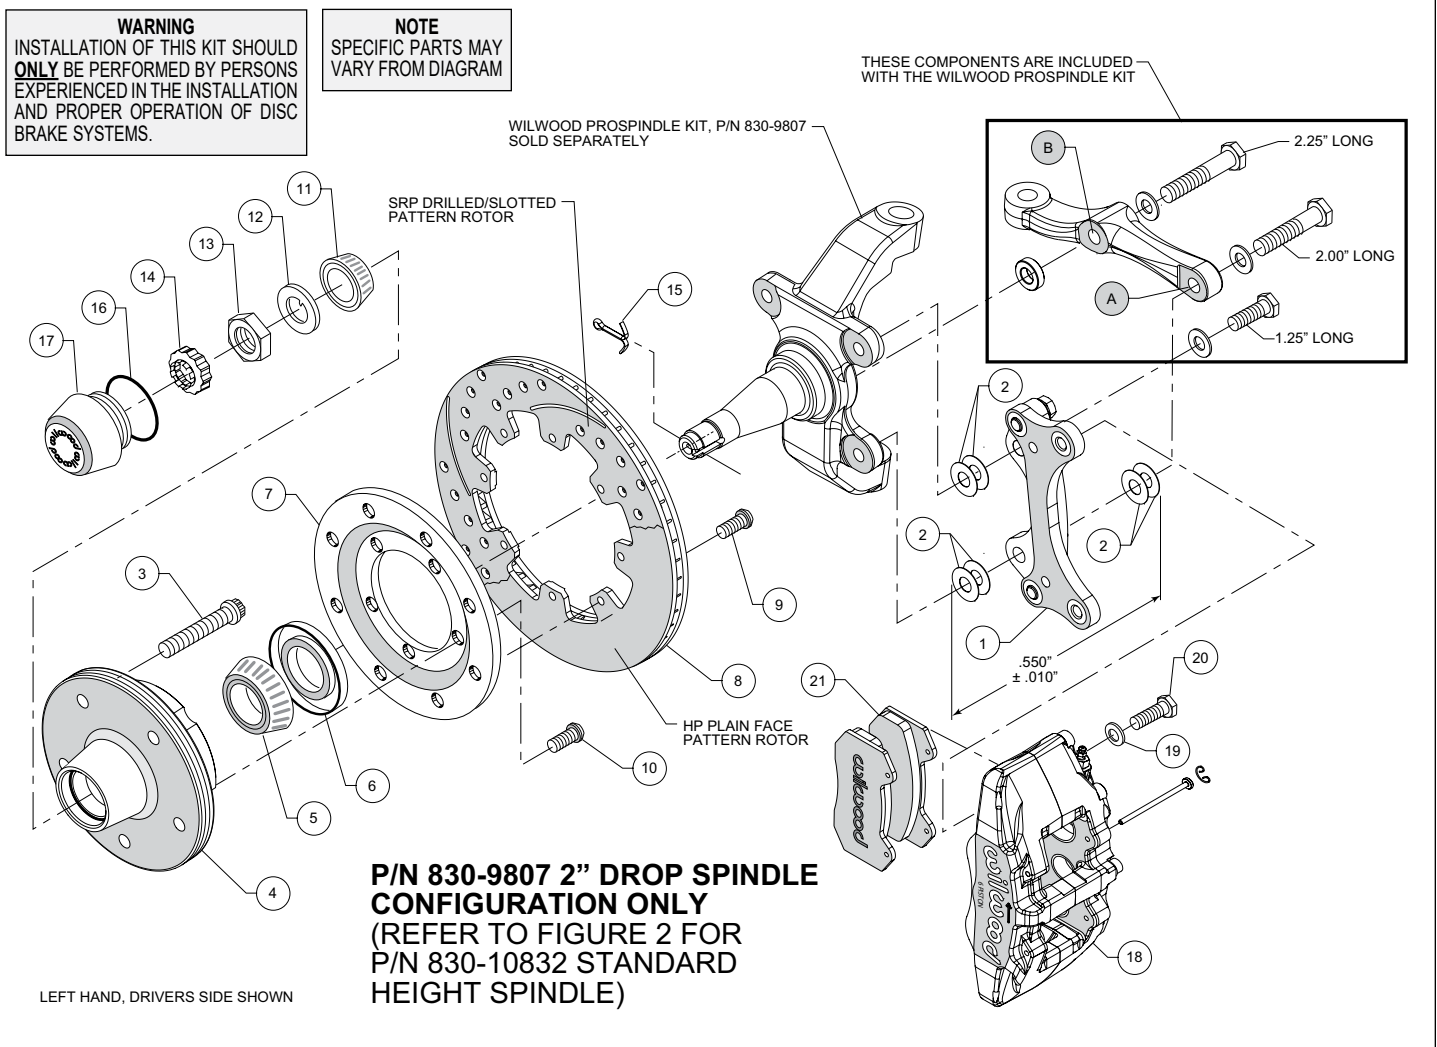

Figure 1. Installation Configuration for Drop Spindle, P/N 830-9807
NOTE: Numbers in parenthesis refer to the parts list and Figures 1 and 2 on the preceding pages.
NOTE: Each Wilwood ProSpindle kit includes bolts, washers, and a spacer to mount the steering arm and caliper bracket. The various bolts are identified by length in the following instructions and in Figures 1 and 2.
- Orient the bracket as shown in Figure 1 and Photo 1. Install at top spindle hole using 1.25" long bolt and .06" thick washer (from ProSpindle kit), and two .016" thick shims (2) between the bracket and spindle, Figure 1.
- Orient the steering arm, and identify the hole marked 'A', as shown in Figure 1. Install at bottom spindle hole using 2.00" long bolt, .06" thick washer (from ProSpindle kit), two .016" thick shims (2) between the steering arm and the bracket, and another two more .016" thick shims (2) between the bracket and spindle, Figure 1. The bracket is located between the steering arm and spindle. **NOTE:** The bracket and shim washers must add up to a total thickness of .550" ± .010", Figure 1.
- Finish attaching the steering arm through the hole marked 'B', as shown in Figure 1. Install using 2.25" long bolt, .06" thick washer, and .25" thick spacer (all from ProSpindle kit), Figure 1.
- Orient the rotor (8) and the rotor adapter (7) as shown in Figure 1 or 2 and Photo 5. Attach the rotor to the adapter using bolts (9). Using an alternating sequence, apply red *Loctite*® 271 to the threads, and torque to 25 ft-lb.
- Mount the adapter/rotor assembly (7 and 8) to the hub (4) using bolts (10), as shown in Figure 1 or 2 and Photo 6. Using an alternating sequence, apply red *Loctite*® 271 to the threads, and torque to 45 ft-lb.
- Pack the small outer bearing cone (11) with high temperature disc brake bearing grease and install into front of hub (4), Photo 7. Slide the hub/rotor onto the spindle. Secure using spindle washer (12) and adjusting nut (13). Bearing adjustment: Tighten the nut while turning the hub. When there is a slight bind on the bearings, they are seated correctly. Back the nut off about 1/6 to 1/4 of a turn, or sufficiently to allow .001" to .007" end play. **WARNING:** Failure to back off adjusting nut could cause bearing to run hot and be damaged, which could cause the wheel to lock or come off. Install spindle nut retainer (14) and new cotter pin (15).
- Screw dust cap (17) into hub (4), Photo 8. Friction created by the o-ring (16) on the dust cap keeps it from unscrewing. **NOTE:** The O.D. of the existing OEM spindle washer may be larger than the I.D. of the dust cap not allowing it to seat against the hub face. Therefore, use the spindle washer (12) supplied with the kit instead of the OEM washer.
- NOTE:** Please reference the caution statement at the beginning of the assembly instructions. This kit contains distinct right and left hand calipers that must be mounted in a specific direction, as described below. Mount the caliper (18) onto the caliper bracket (1) using washers (19), and bolts (20) as shown in Figure 1 or 2. Ensure that the caliper is mounted so the largest pistons are at the rotor exit end of the caliper, in relation to the direction of rotor rotation. Temporarily tighten the mounting bolts and view the rotor (8) through the top opening of the caliper (18). The rotor should be centered in the caliper, Photo 9. If not, proceed as follows:
- Adjust by adding or subtracting shims (2) between the bracket and the spindle. Always use the same amount of shims on each of the two bolts between bracket and spindle.
- For the lower bracket mount bolt, if a shim was added between the bracket and spindle, then a shim must be removed between the steering arm and bracket, such that the total thickness of bracket and shims remain equal to $.550 \pm .010"$, Figure 1.
Figure 1 or 2 and Photo 10, with the friction material facing the rotor. Secure the brake pads in place with the pad retaining pins and clips, Photo 11. Reinstall the caliper onto the caliper mounting. Remove the ProSpindle bolts one at a time, apply red *Loctite*® 271 to the threads and torque to 55 ft-lb. Then apply red *Loctite*® 271 to caliper mounting bolt threads (20) and torque to 40 ft-lb.